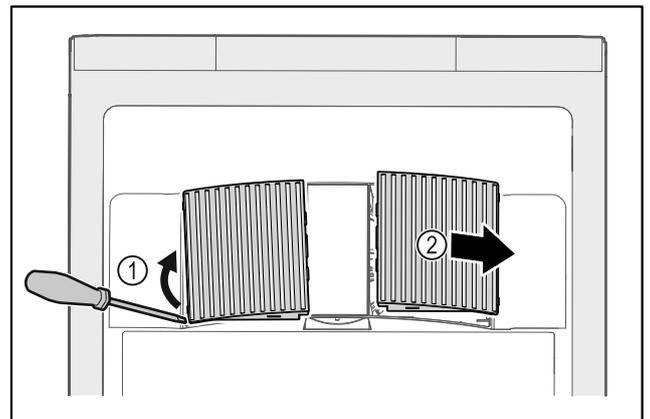

Fig. 145
- ▶ Carefully lever out fan covers from the side Fig. 145 (1) and remove towards the front Fig. 145 (2).